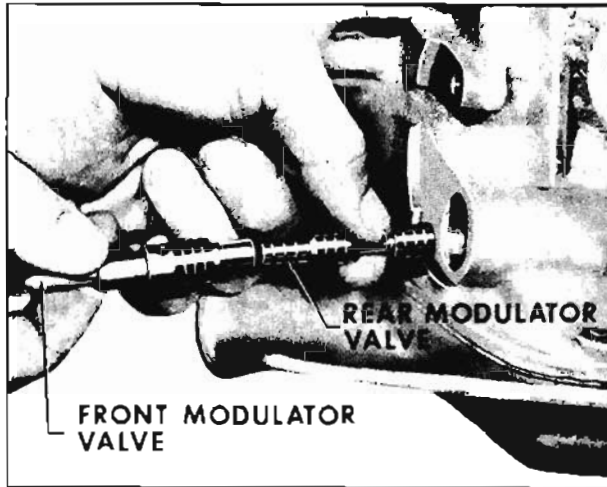

Fig. 6-477 Installing Modulator Valve
1. Slide rear modulator valve into front modulator valve, then install into bore in case (Fig. 6-477)